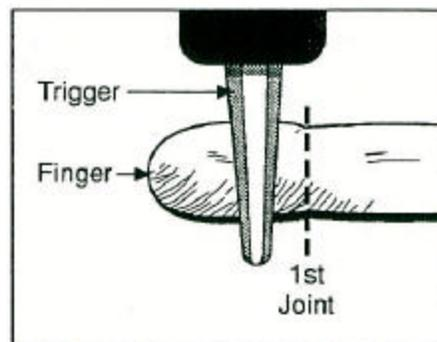

Figure 6
- (1) Finger Placement. To begin proper trigger control, the shooter must first properly place the index finger on the trigger. The index finger is placed in the middle of the trigger at the most rearward curved portion, to apply pressure to the trigger. The trigger should cross the finger approximately halfway between the tip of the finger and the first joint, over the swirl of the fingerprint. (See figure 6.)